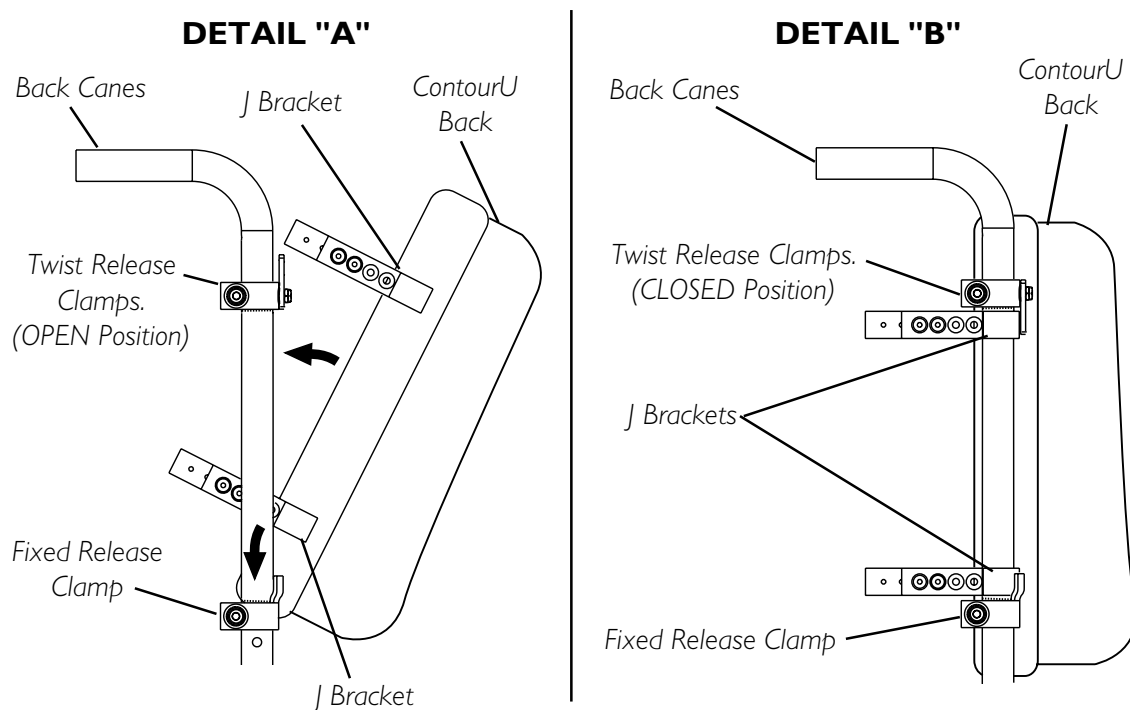

FIGURE 4 - INSTALLING/REMOVING THE CONTOUR U BACK
INSTALLING/REMOVING THE CONTOUR U SEATING SYSTEM BACK (FIGURE 4)
1. Ensure that the twist release clamps are in the OPEN position as shown in DETAIL "A" of FIGURE 4.
2. Position the two (2) lower J brackets securely into the two (2) fixed release clamps as shown in FIGURE 4.
3. Position the upper two (2) J brackets against the back canes just below the two (2) twist release clamp.
4. Rotate the two (2) twist release clamps to the CLOSED position as shown in DETAIL "B" of FIGURE 4.
1. Rotate the two (2) twist release clamps to the OPEN position as shown in DETAIL "B" of FIGURE 4.